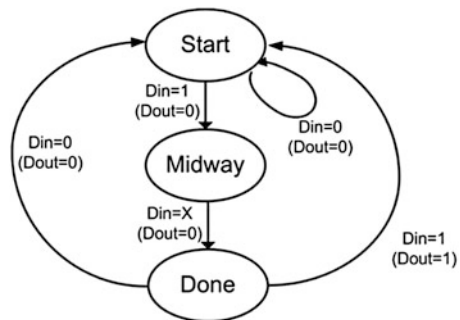

Fig. 2.57
- 2.3.9** For the state diagram in Fig. 2.57, how many D-Flip-Flops will this machine take if the states are encoded in *binary*?
- 2.3.10** For the state diagram in Fig. 2.57, how many D-Flip-Flops will this machine take if the states are encoded in *gray code*?
- 2.3.11** For the state diagram in Fig. 2.57, how many D-Flip-Flops will this machine take if the states are encoded in *one-hot*?
- 2.3.12** For the state diagram in Fig. 2.57, is this a Mealy or Moore machine?
The next set of questions are about the design of a finite state machine by hand to implement the behavior described by the state diagram in Fig. 2.57. For this design, you will name the current state variables $Q1_cur$ and $Q0_cur$ and name the next state variables $Q1_nxt$ and $Q0_nxt$. You will also use the following state codes:
- 2.3.13** For the state diagram in Fig. 2.57, what is the next state logic expression for $Q1_nxt$?
- 2.3.14** For the state diagram in Fig. 2.57, what is the next state logic expression for $Q0_nxt$?
- 2.3.15** For the state diagram in Fig. 2.57, what is the output logic expression for $Dout$?
- 2.3.16** For the state diagram in Fig. 2.57, provide the final logic diagram for this machine.